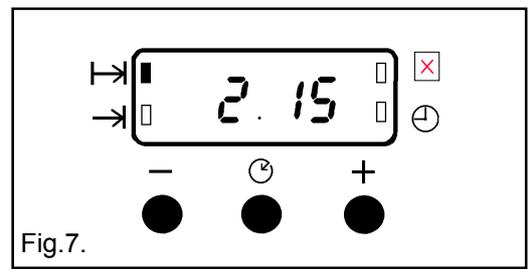

Fig.7.
- iii) To set the length of cooking time, press the Selector control button () until the 'Cook Time' indicator is illuminated (). Press the increase control (+) until the required length of cooking time is displayed, e.g. 2 hrs 15 mins as Fig. 7. If necessary depress the decrease control (-) until the correct time interval is achieved.